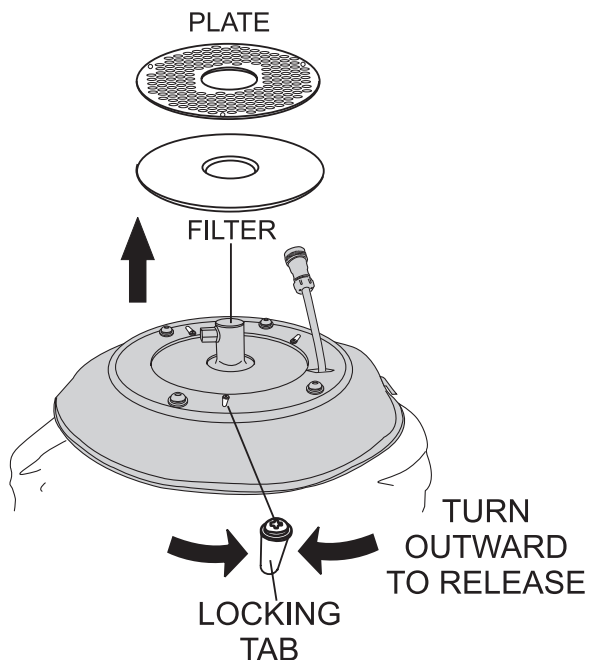

Figure 42. Filter Removal
4. Turn the three locking tabs (Figure 42) inward to release the plate. Remove plate and filter.